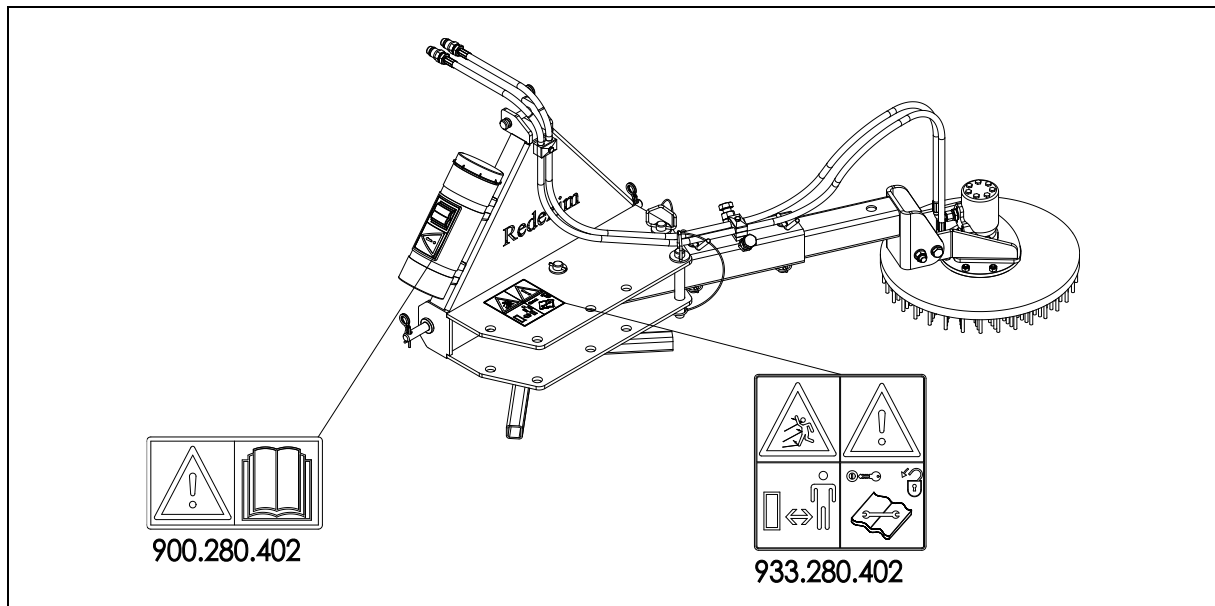

Figure 5
Safety stickers with an identical meaning are attached to both sides (Figure 5) of the Side-Brush and to the protective cover. These safety stickers must always be clearly visible and legible and must be replaced if they have become damaged.
- (7) Location of the safety stickers. (Fig. 5)